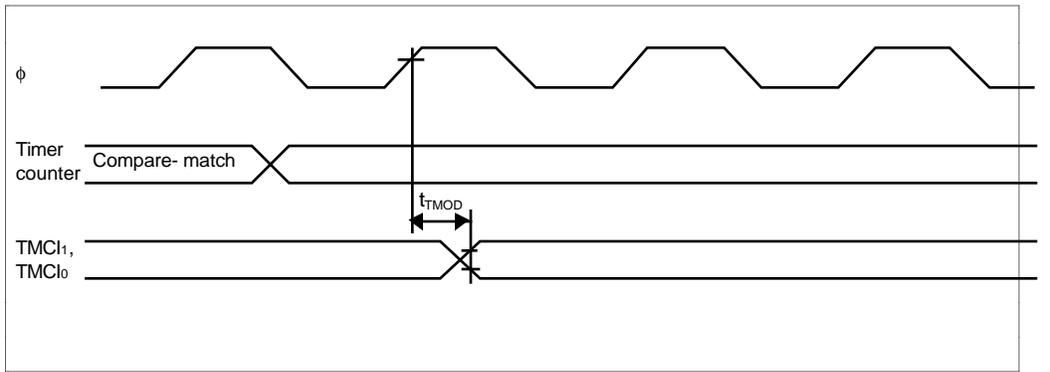

Figure 17-12 8-Bit Timer Output Timing
- 17.3.4 8-Bit Timer Timing Figures 17-12 to 17-14